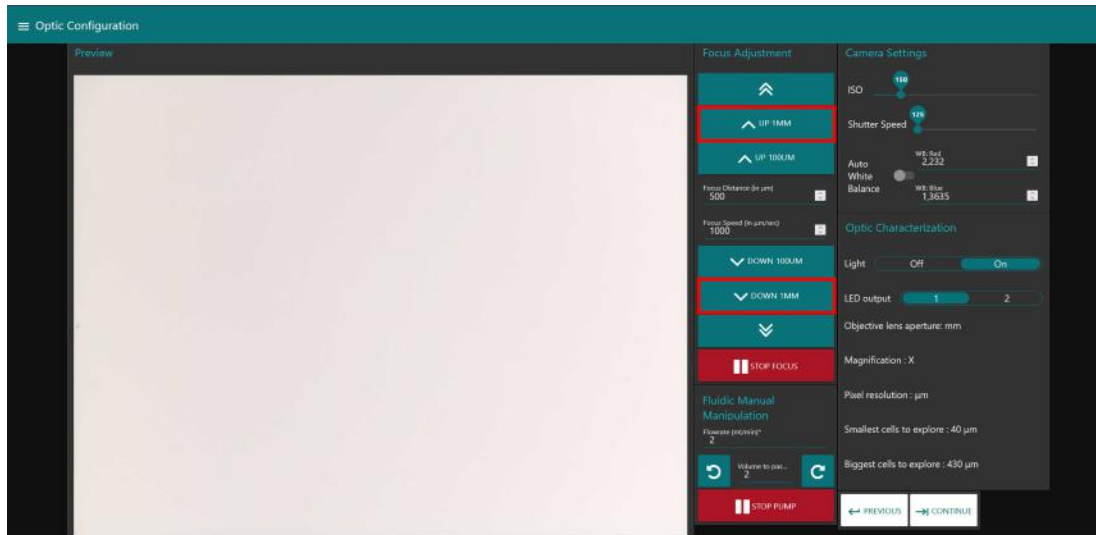

Figure 4: Red boxes highlight "UP 1MM" and "DOWN 1MM"
- Under "Focus Adjustment" (Fig.4), **click "UP 1MM" and "DOWN 1MM"** to ensure focus buttons turn the focus motor (same for the 100 UM version of the button). You should see the frame moving further from (UP) or closer to (DOWN) the camera. **You can also use the ">>" button to move your focus according to a personalized value ("Focus distance").**